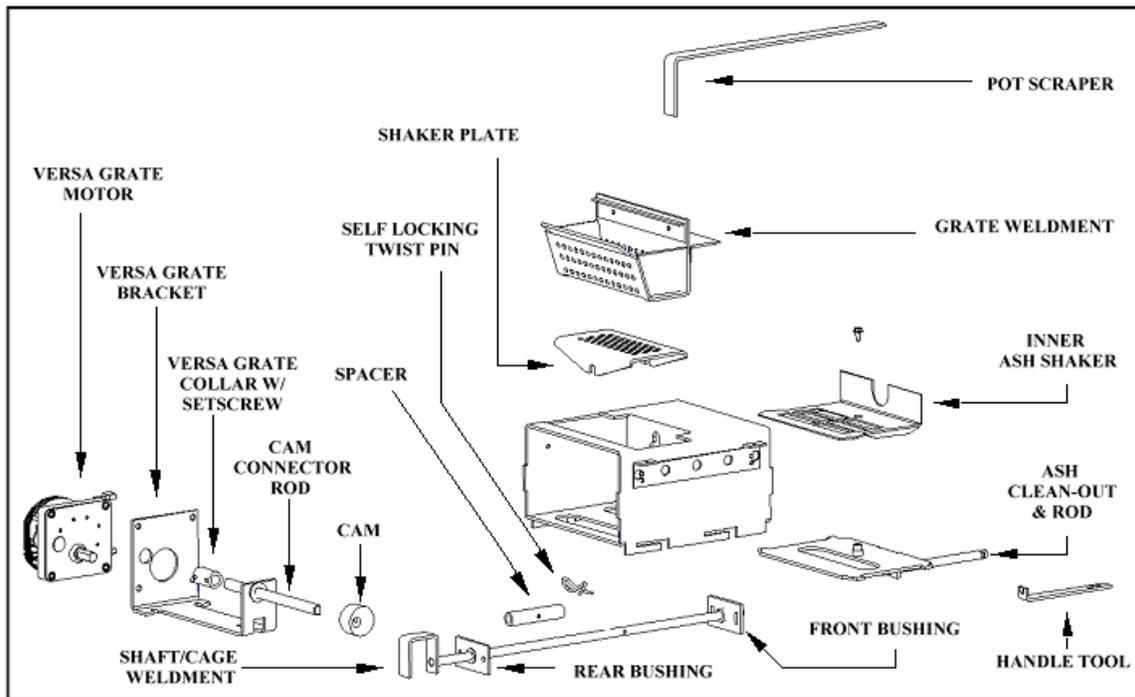

Figure 5
**The Versa Grate System** (see Figure 5 below). The benefit of this feature is that the stove can operate for longer periods of time, with most
First, let's become familiar with the burn system in a St. Croix Pellet stove. Remember, cleaning frequency may change dramatically from one fuel to another. Pellets with high ash content or that have increased amounts of impurities or high moisture content. Every St. Croix Pellet stove model will have the same system as shown in figure 5 below. There is a 2-piece burnpot. The top Part is called the **"Grate Weldment"**. This sits on top of the **"Shaker Plate"**. This in turn sits on top of the **"Shaft/Cage Weldment"** and is held in place with the **"Spacer"** & **"Self Locking Twist pin"**. The Shaft/Cage weldment is moved towards the front of the stove and then towards the back of the stove by the **"Cam"** that is connected to the **"Versa Grate Motor"**. This motion is constant, while the stove is in operation. The only parts that may need to be removed for cleaning purposes during the Daily or Periodic Maintenance are the **"Grate weldment"** and the **"Shaker Plate"**. This is to check the holes in the burnpot system to see if they are plugged.
1. Check Grate Weldment and Shaker Plate (See figure 5) to determine if holes are plugged. Clean as needed. With proper precautions the grate may be partially cleaned while the stove is hot. Follow these steps:
- d. Use the “scraper” provided to move the burning pellets to one side of the grate, leaving the ash in the bottom of the grate. (See Fig 5 & 6)
2. The Afton Bay has 3 Ash Traps/Clean-Outs, 2 of which are located below the rear brick panel. The third is located behind the Ash Pan. Remove covers and clean regularly. (See Figure 7 below) Be sure to clean both sides. Use scraper shown in figure 5 & 6 to scrape ash into ash pan. Use a vacuum (cold stove only) to thoroughly clean these areas.
3. Clean burn grate holes at least weekly. Remove the burn grate and use a small metal object to clean out plugged holes. (See fig. 5 on page 9.)